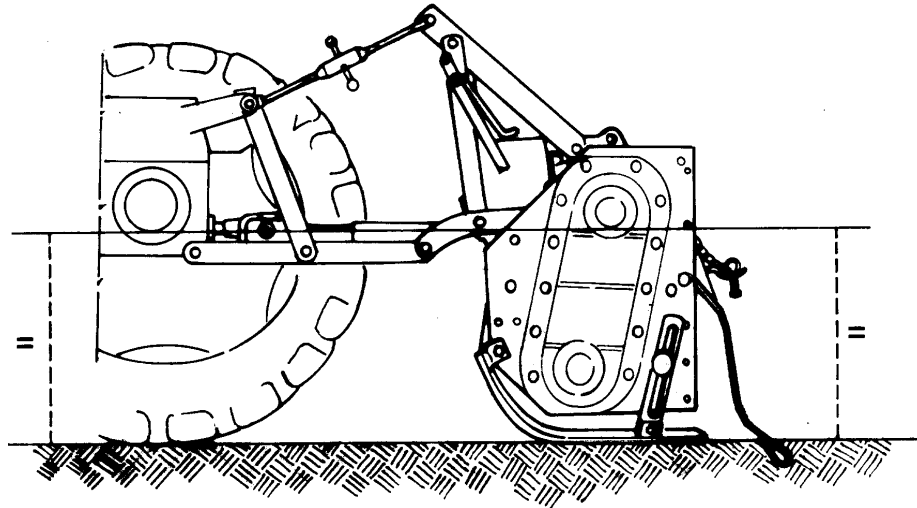

Fig. 15 - Correct work position of the tiller. A 1 to 2 degree rearward tilt is acceptable.
4. Attach the top link. Adjust it so the tiller is as near parallel to the ground as possible. A 1 to 2 degree rearward tilt is acceptable (**see fig. 15**).